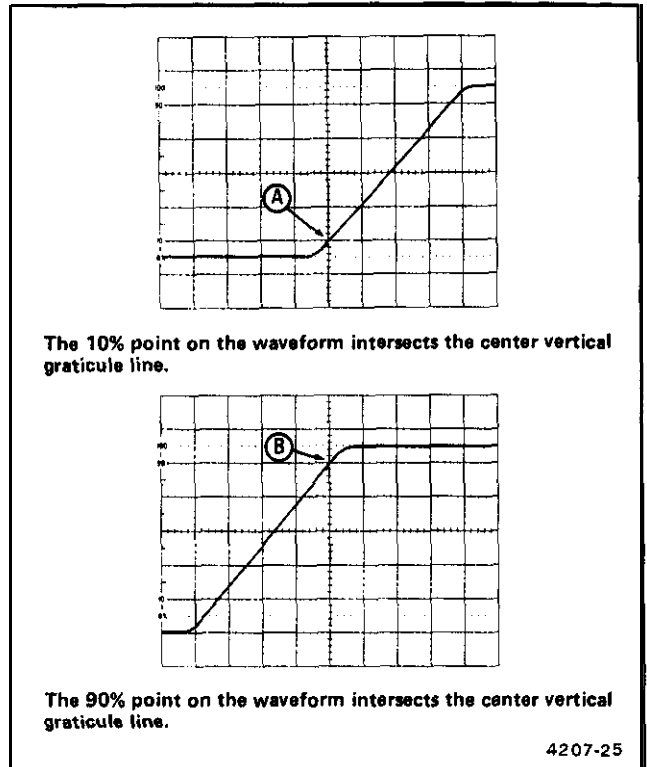

Figure 4-15. Rise time, differential time method.
3. Vertically position the trace so that the zero reference of the waveform touches the 0% graticule line and the top of the waveform touches the 100% graticule line (see Figure 4.15).
6. Select the B HORIZONTAL MODE. Adjust the B DELAY TIME POSITION control until the display intersects the 10% point at the center vertical graticule line (see Figure 4-15, Point A).
8. Adjust the B DELAY TIME POSITION control until the display intersects the 90% point at the center vertical graticule line (see Figure 4-15, Point B).